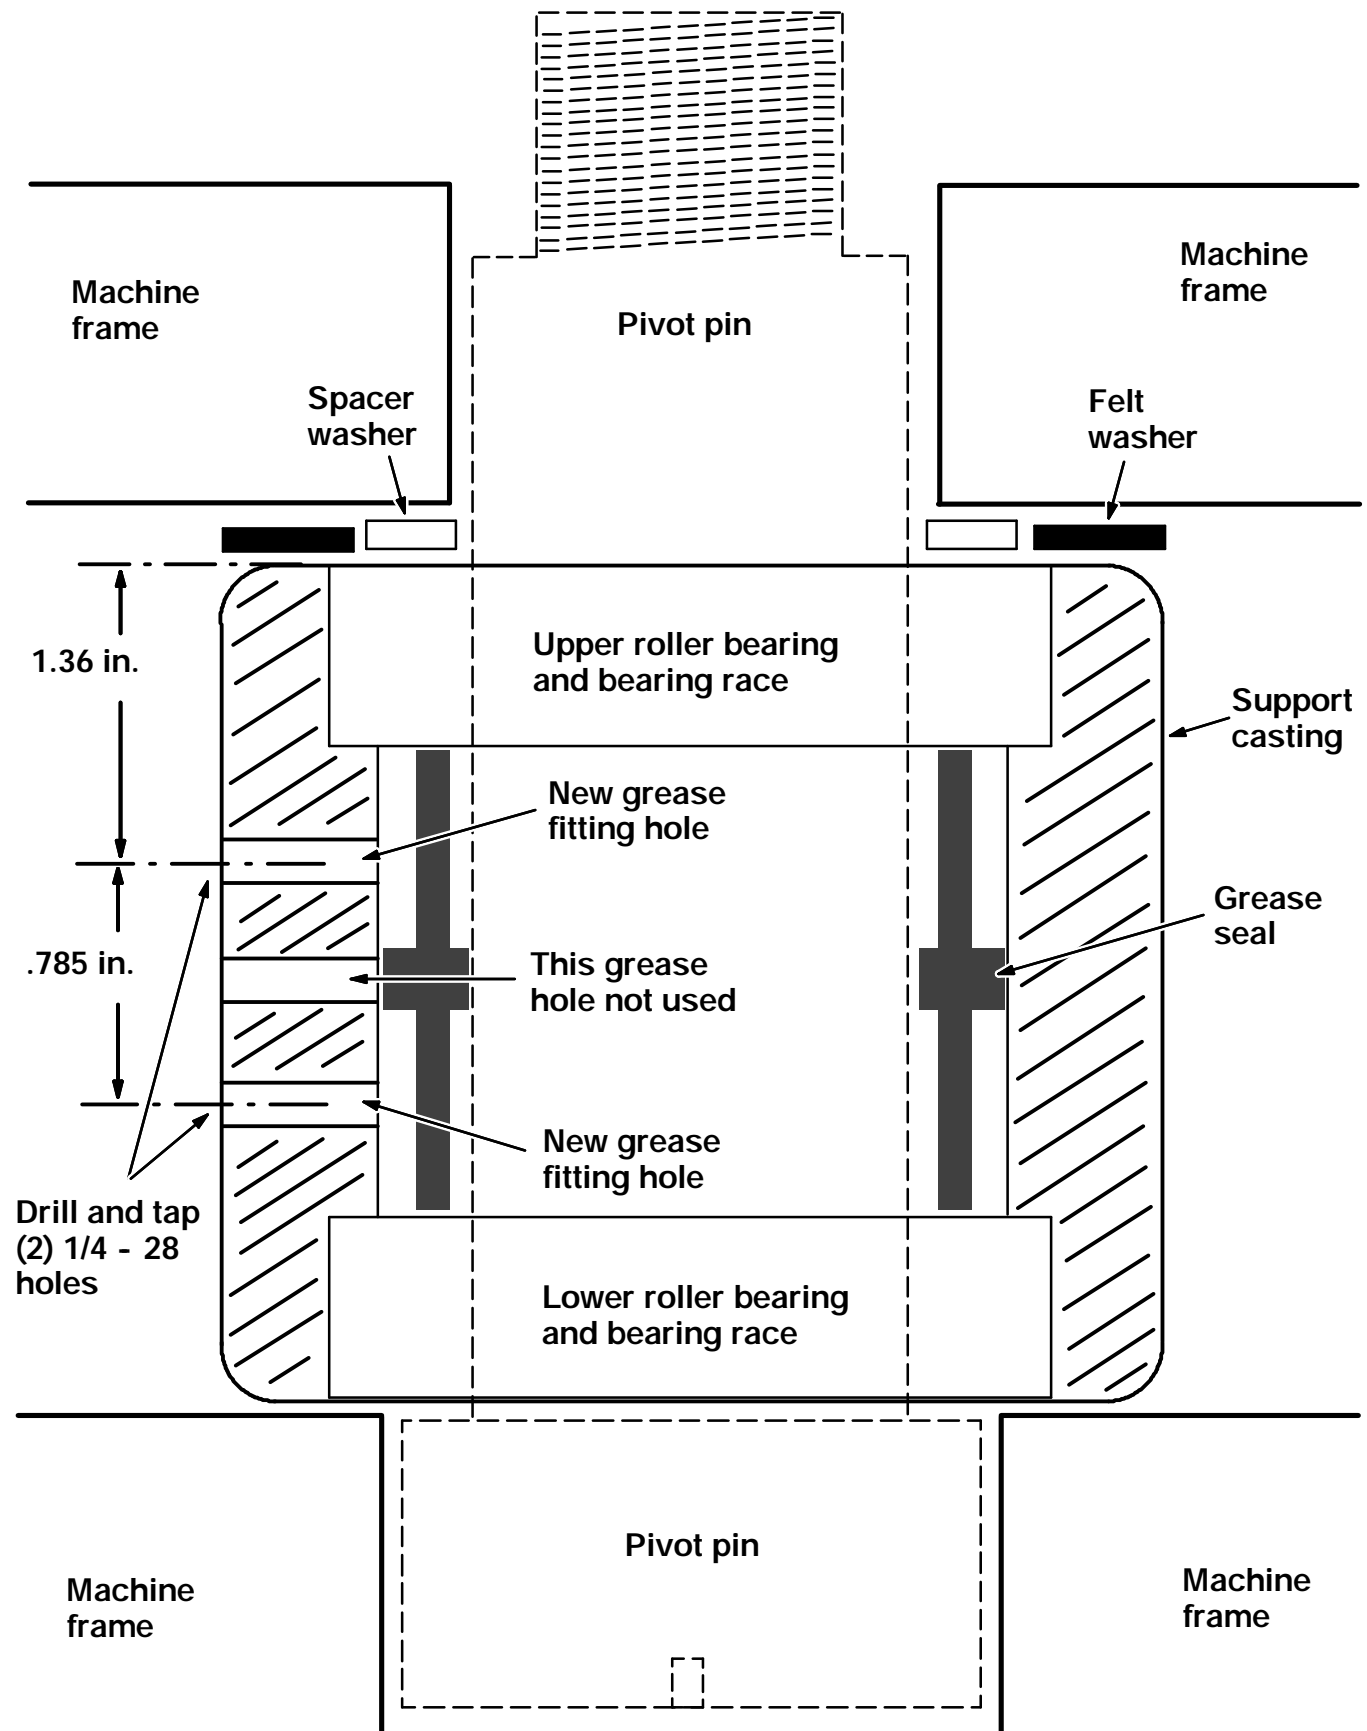

FIG. 1 - Drive Casting Rework And Assembly
(Refer to FIG. 1, 2, 3, 4, and 5)
(Refer to FIG. 1)
1. Use the dimensions in FIG. 1 to mark, drill, and tap two new grease fitting holes. The two new holes are drilled in line with the existing grease fitting hole.